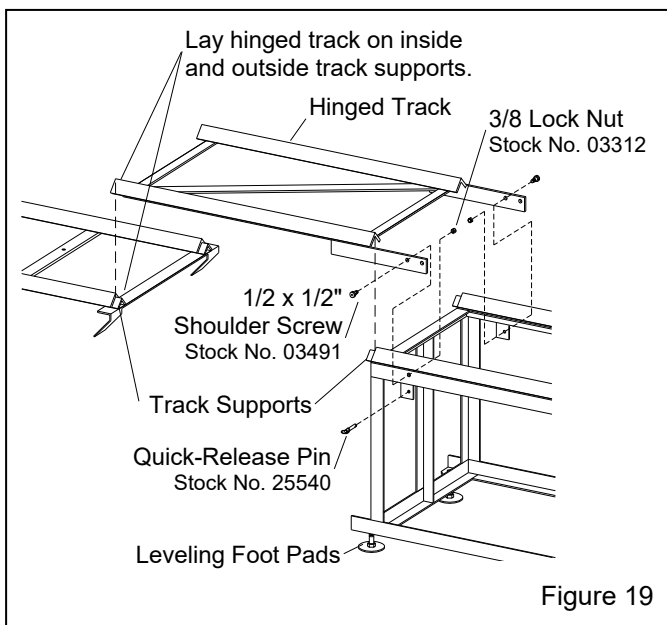

Figure 19
### 3.5.4 Attach hinged track – Figure 19
**3.5.4.1** With the door open, place the hinged track on the inside and outside track supports, as shown in Figure 19. Maneuver the outside track as needed to align the hinge-track bolt holes with the outside-track bolt holes, while making sure hinge track is fully resting (with no gaps) on the track supports.